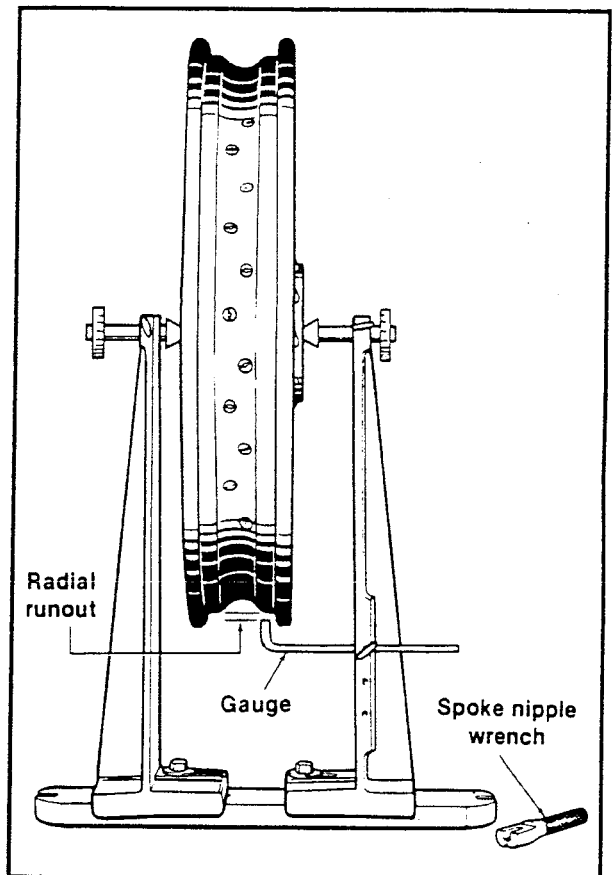

Figure 5-60. Truing Rim Radially
1. See Figure 5-60. After rim has been trued to the rim-to-hub dimension and concentrically, it must be trued radially. Adjust truing stand gauge to the rim's tire bead seat as shown.